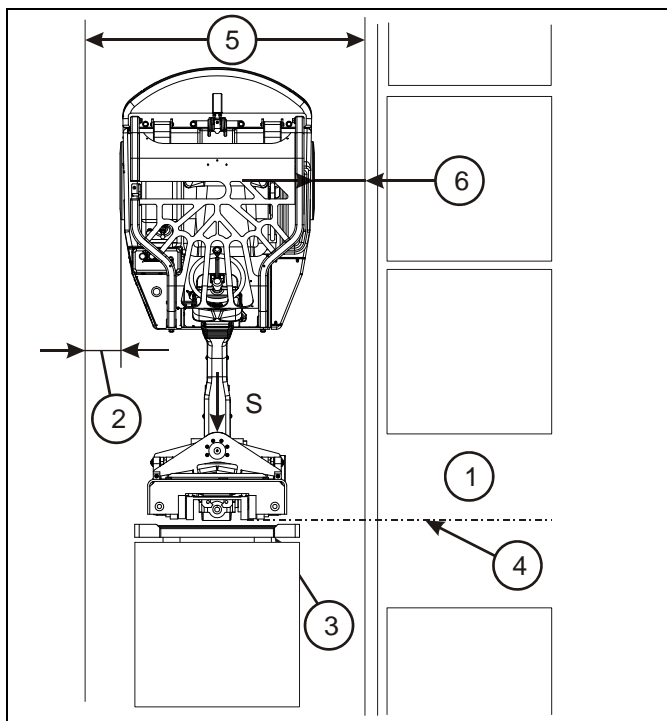

Figure 4-19: Setup - Delivering a Load
Actual minimum aisle width may vary based upon application. Item 5 - See Figure 4-19.
1. Approach the side of the aisle that is *opposite* the area where you will unload the forklift. Item 1 - See Figure 4-19.
2. For narrow aisles, straighten out the truck so it is 6 in. to 8 in. from the edge of the aisle opposite the drop off point. Item 2 - See Figure 4-19. For wide aisles, straighten out the truck so it is 36 in. to 48 in. from the side of the aisle where the load is located. Item 6 - See Figure 4-19.
4. See Figure 4-19. Drive forward until the front edge of the load wheels, items 3 and 4, are aligned with the center of the rack opening.